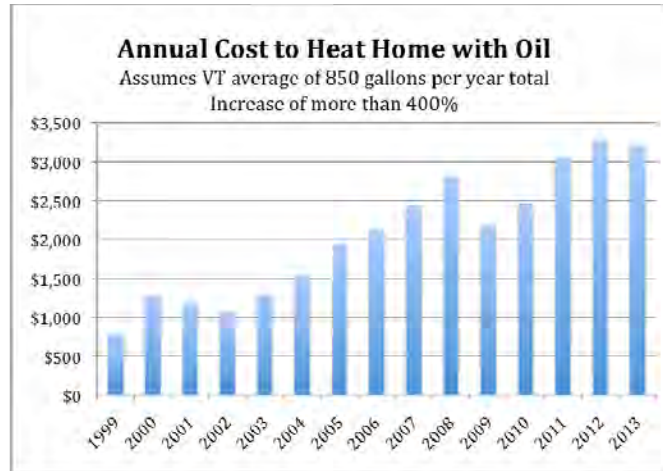

Figure 6: Annual Cost to Heat Home with Oil
- Figure 6: Annual cost to heat home with oil